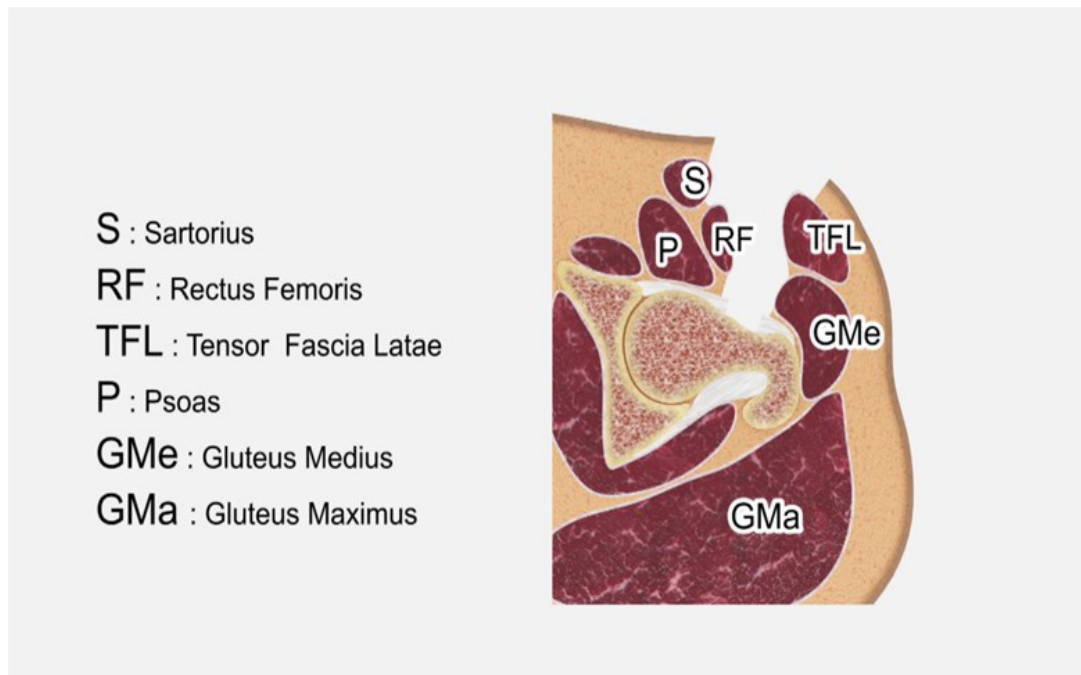

figure 7
The dissection is performed without muscle injury, between the Tensor Fasciae Latae (TFL) muscle laterally and the Rectus Femoris (RF) muscle medially (Figure 7).